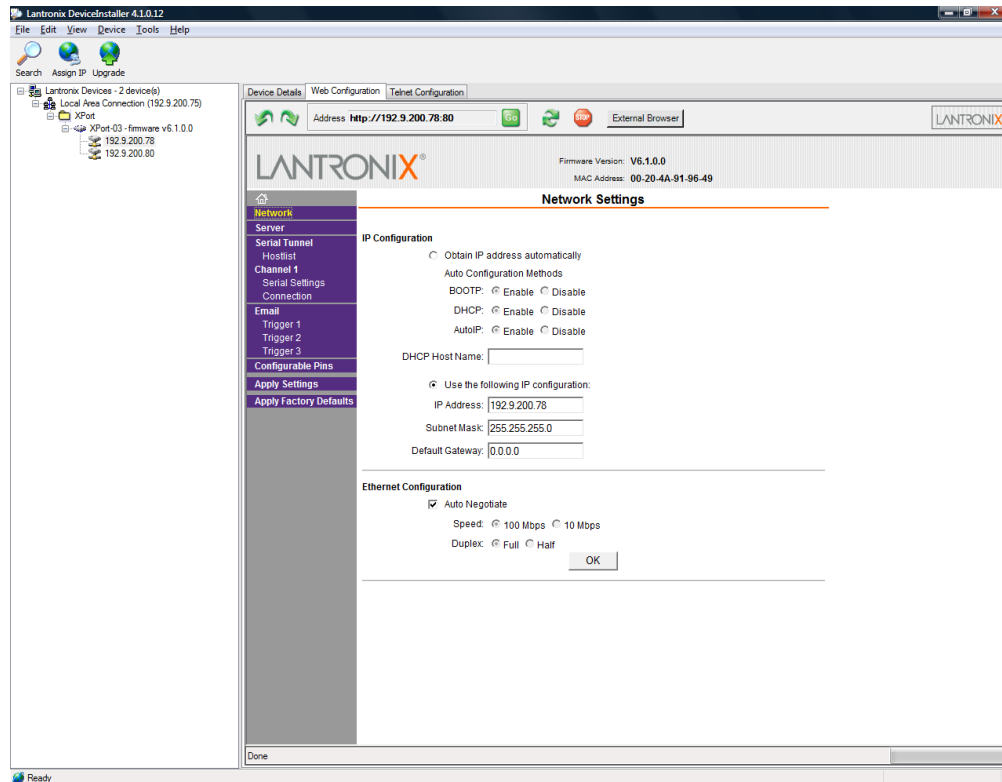

Figure 2
3. Select the device that requires adjustment, click on the “Web Configuration” tab, and press “Go” near the address box. It should appear as shown in Figure 2. You can also use a browser once you know the IP address to connect to the device.